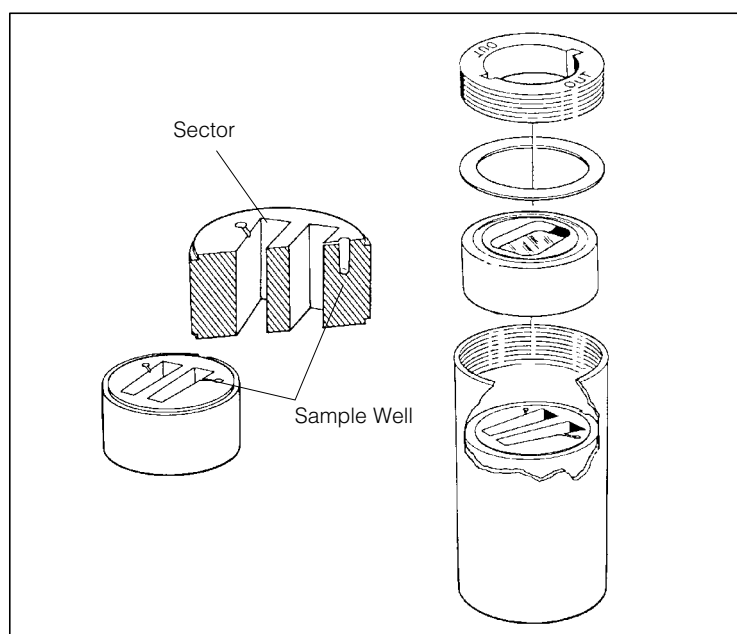

Figure 2-7. Filling a Type I Band-Forming Centerpiece
- *Band-forming centerpieces.* The sample wells must be filled before the cell is completely assembled. After inserting the first window assembly and centerpiece into the housing, hold the cell upright with the filling holes away from you. From the top, load 0.01 mL of sample into the right sample well; load 0.01 mL of buffer into the left sample well (Figure 2-7). Finish assembling the cell by adding the final window assembly, screw ring and washer, as described in Steps 2 through 4.